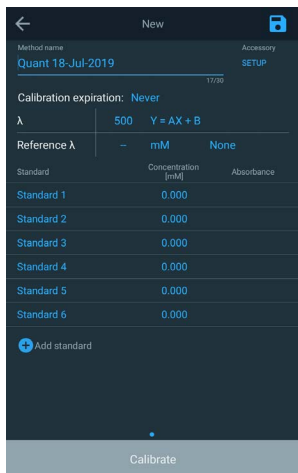

Figure 4: Quant method settings
2. Select the Quant method in the GENESYS Software using similar settings to what is shown in Figure 4. Set the analysis wavelength at the λ_{max} as determined in Part 2. Enter the concentration values for the iron standard solutions you calculated in the previous step.